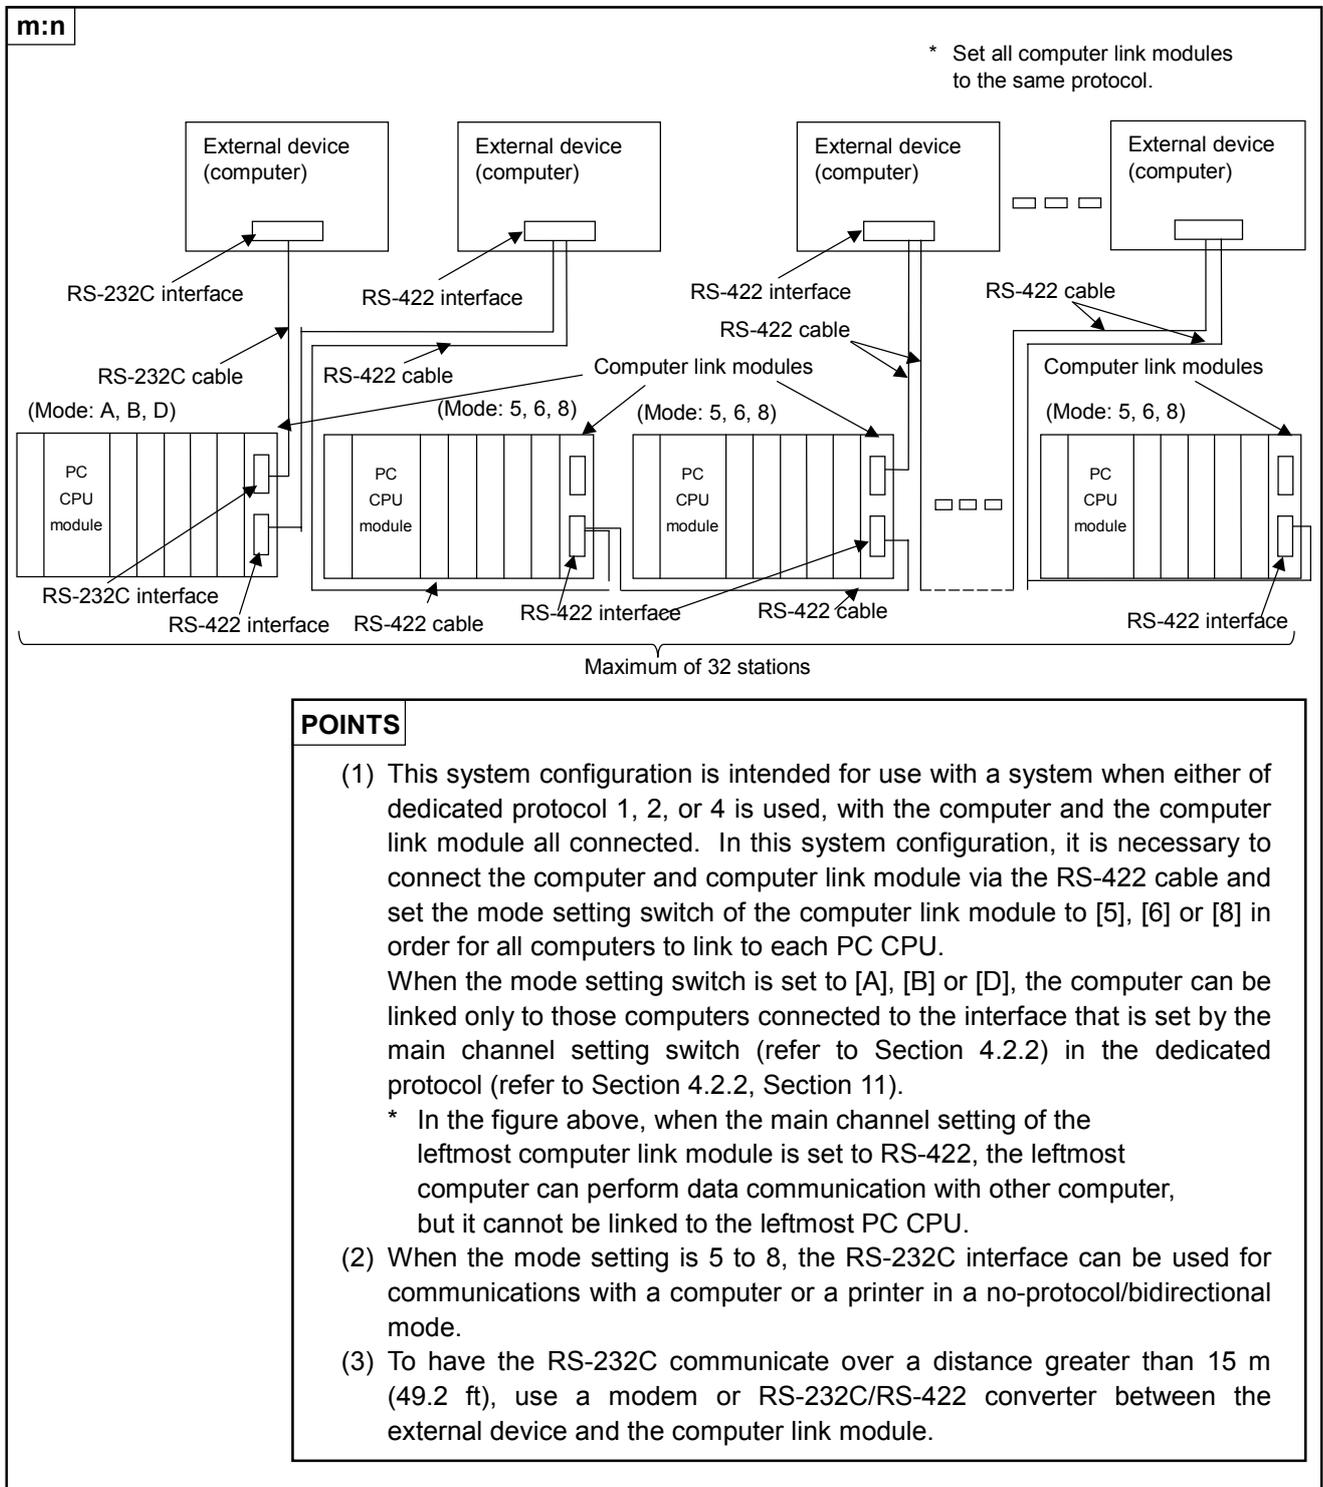

Fig. 2.5 System Configurations (V)
- (1) The system configuration for a m : n (up to 32 stations) ratio of external devices (such as a computer) to PC CPUs is shown in Fig. 2.5 below.